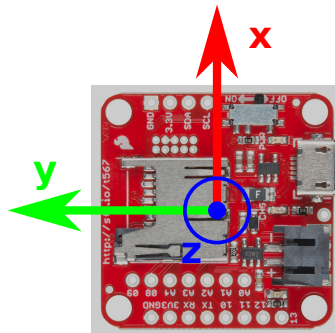

Figure 1: IMU with axes.
- T.3.2 (16 points)** Inspect the `main.cpp` and adjust the coordinate axes orientations of all three sensors. Use the right hand rule for angular directions. See Fig. 1.